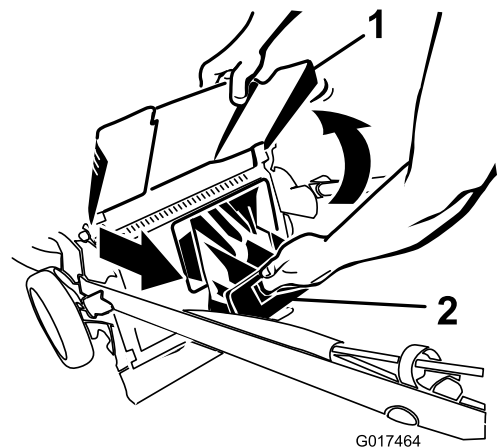

Figure 27
2. Raise and hold up the discharge door (Figure 27).
3. Pull out the rear-discharge plug (Figure 27).